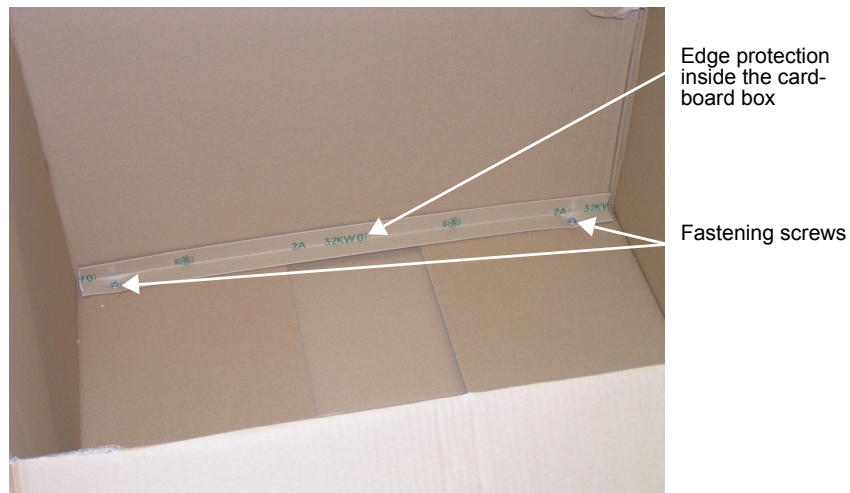

Fig. 13-13 Edge protection for the cardboard box
- Attach the monitor head cardboard box to the pallet using two edge protection strips (→ *Fig. 13-13*).